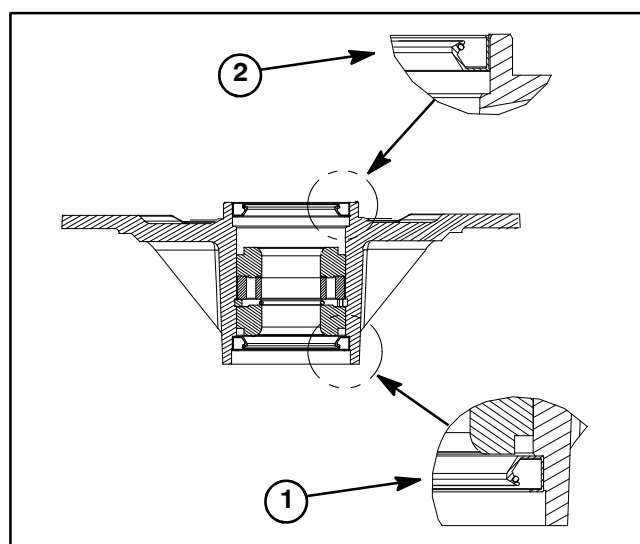

Figure 9
5. Install lower bearing cone and greased oil seal into bottom of spindle housing. **NOTE:** The bottom seal must have the lip facing out (down) (Fig. 9). This seal installation allows grease to purge from the spindle during the lubrication process.
6. Slide spacer ring and inner bearing spacer into spindle housing, then install upper bearing cone and greased oil seal into top of housing. **NOTE:** The upper seal must have the lip facing out (up) (Fig. 9).